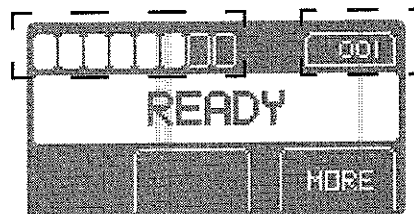

Figure 9 Ready Message with State-of-Health and Counter Update Locations
- If the battery pack passes the state-of-health test and is fully charged, a READY message will appear. The counter area will update the charge cycle count. Five to eight bars will display in the state-of-health area indicating a battery pack ready for use (see figure 9).